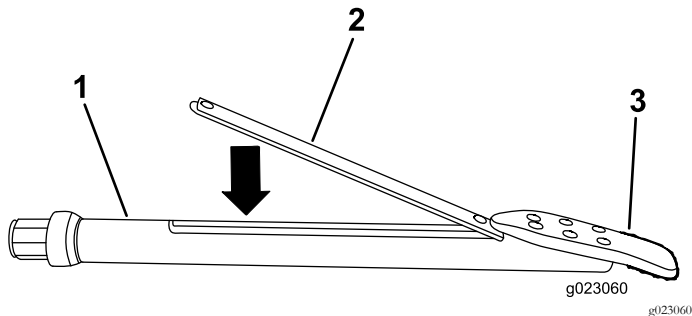

Figure 22
3. Insert the sonde beacon with the forward end toward the drill bit into the sonde housing (Figure 22).